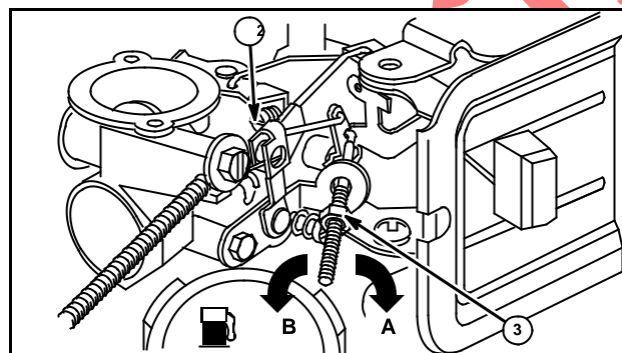

Fig. 2
3. Adjust governed idle by turning stop nut (3) and idle speed screw (2), Fig. 2. Turn stop nut clockwise (A) to increase speed, counterclockwise (B) to decrease.
2. **80000 Series:** Hold throttle lever against stop and adjust idle speed screw (2), to obtain 1600 RPM. Release throttle lever. Then, turn governed idle stop nut (3) to obtain 1750 RPM, Fig. 2.